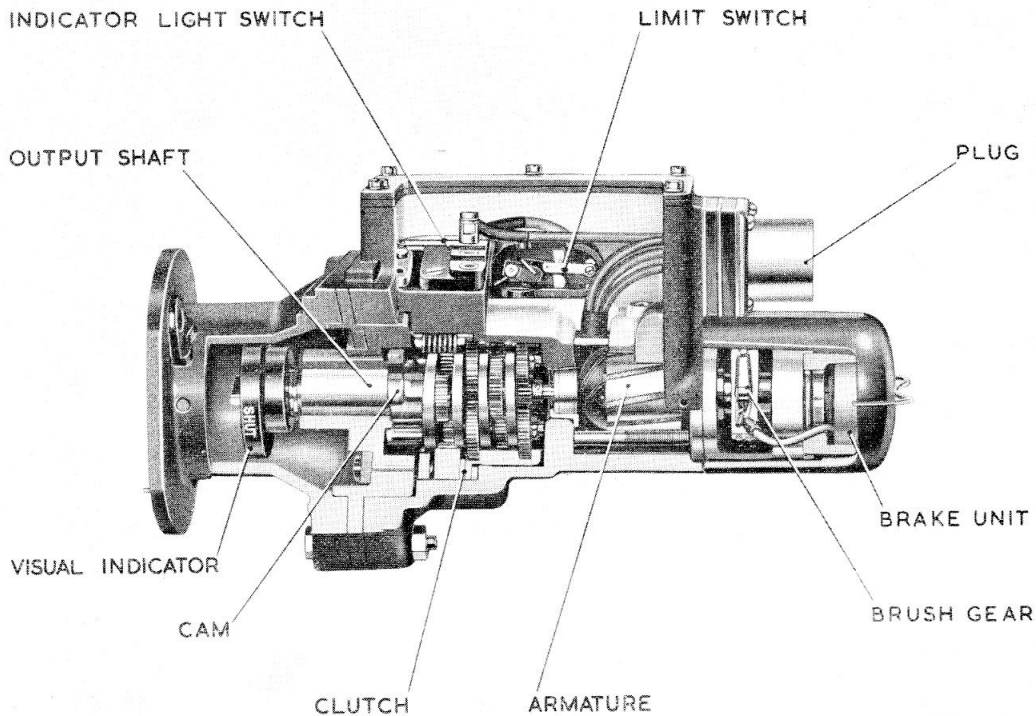

Fig. 1. Sectional view of Type C5605 actuator
1. The C5605 actuator (*fig. 1*) is similar to that described and illustrated in the main chapter, but has the following characteristic features : —